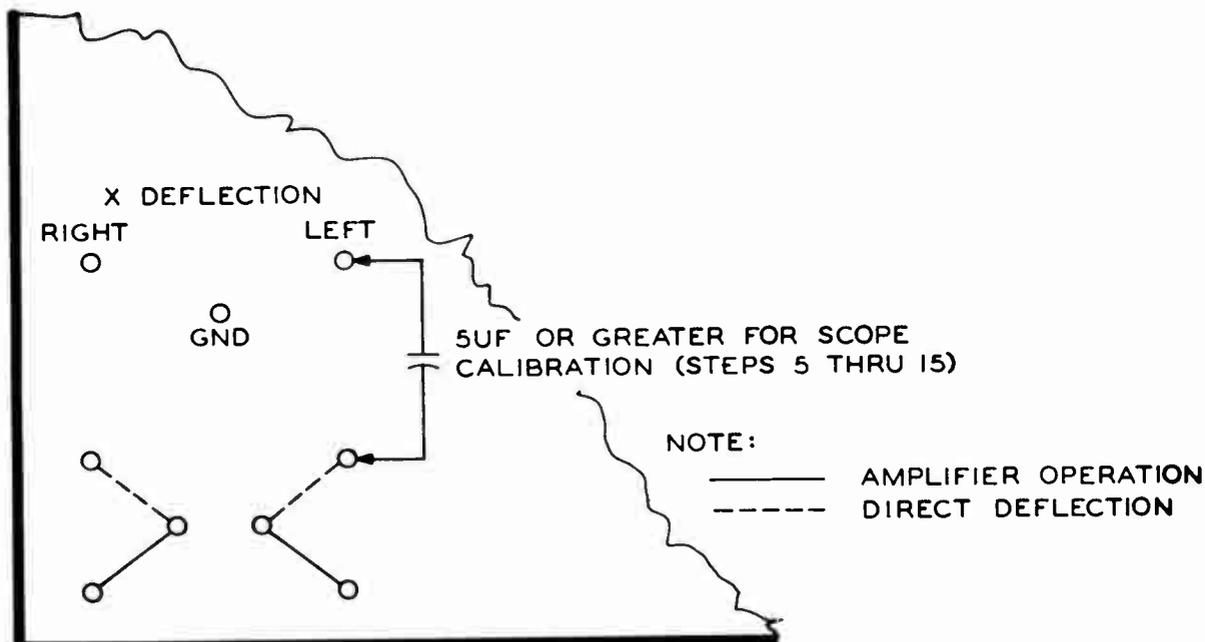

Figure 8-7. Portion of Rear Terminal Board of 304 Scope (Dumont) Showing Amplifier and Direct Connections
5. Prepare horizontal amplifier for direct deflection. See figure 8-7.